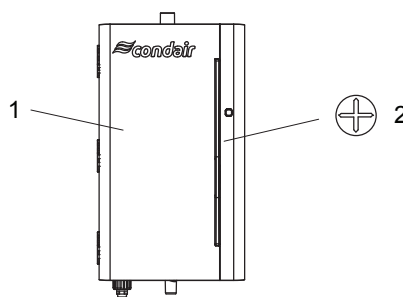

Figure 6 - Door panels
- Open the humidifier cabinet (see Figure 6).